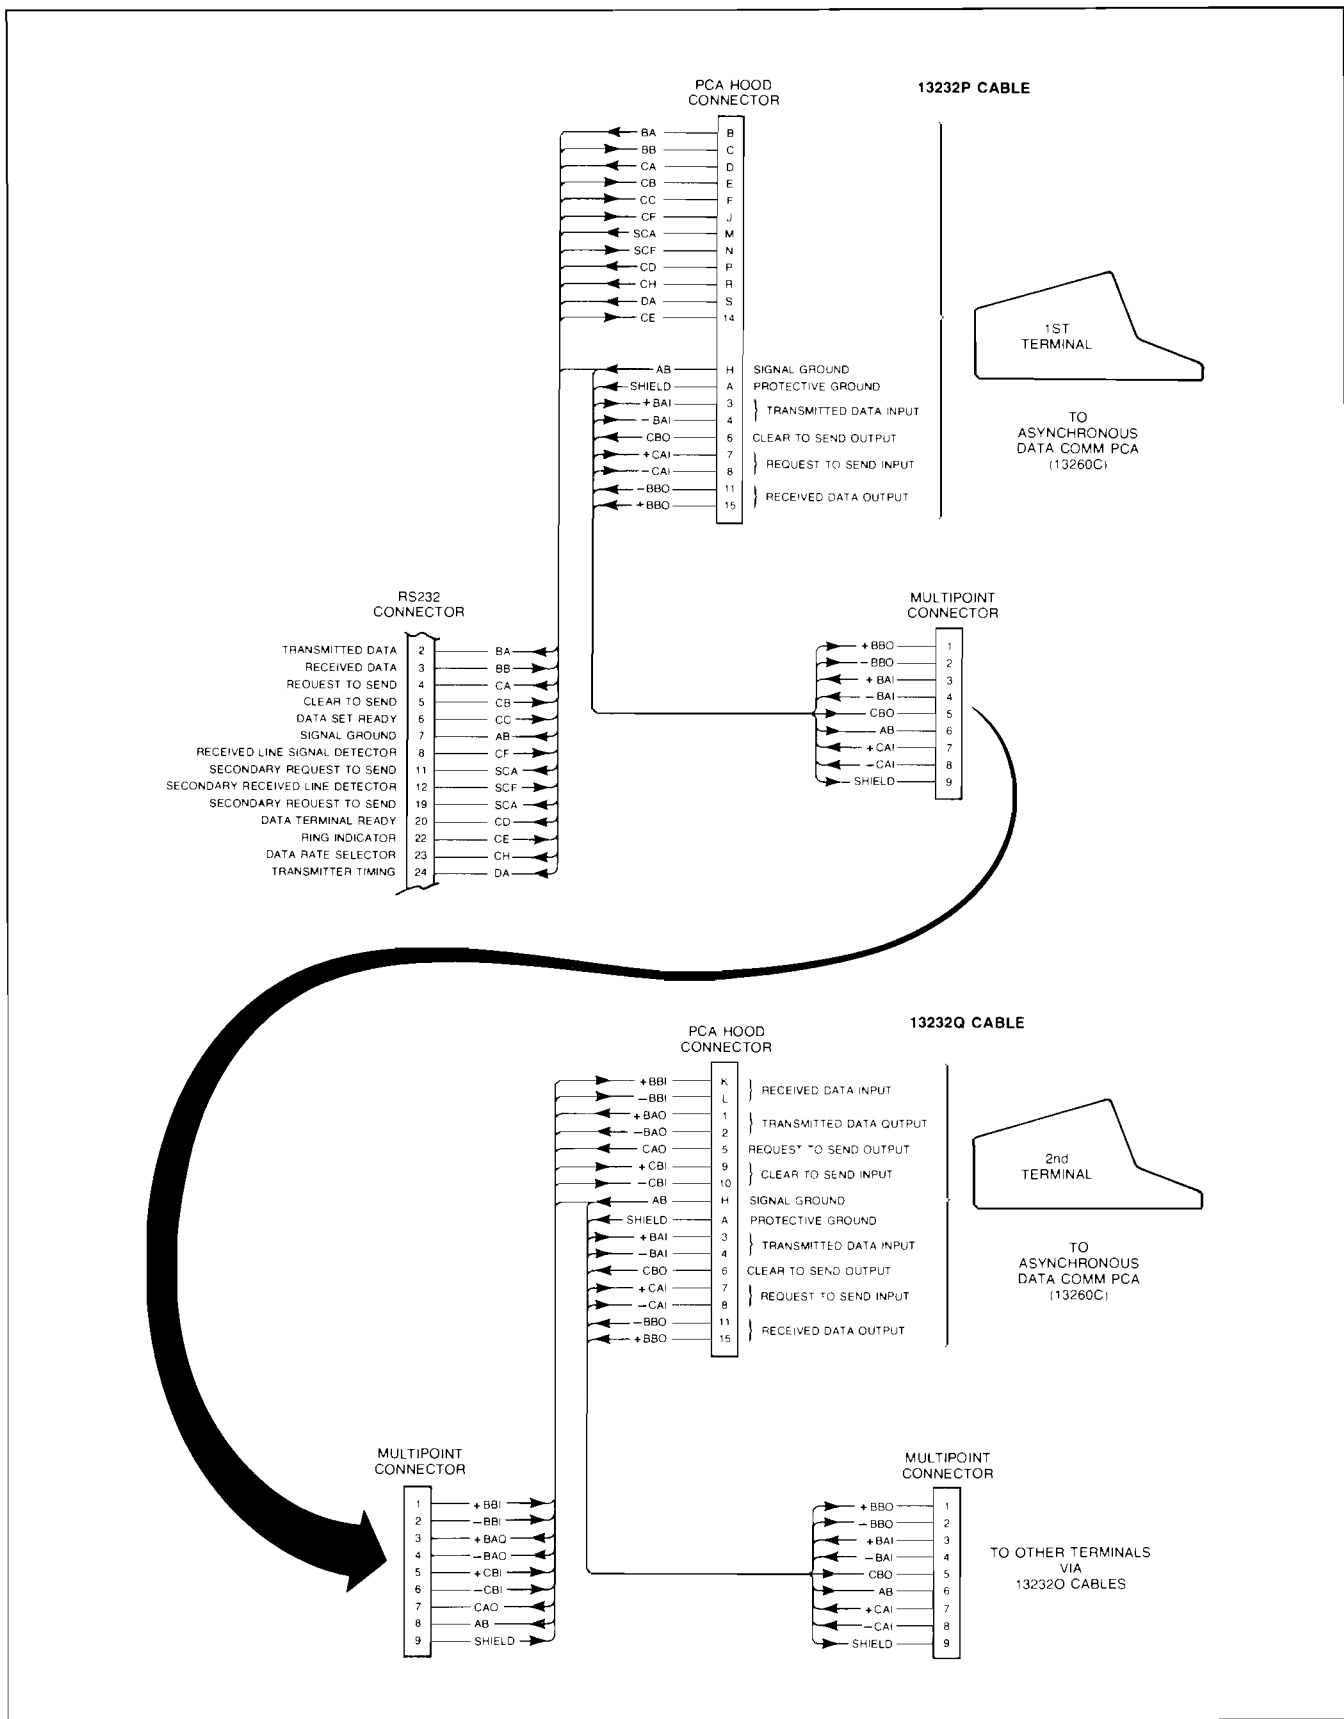

Figure 1-26. Asynchronous Multipoint Cabling
For asynchronous multipoint cabling, refer to figure 1-26 and perform the following:
3. Connect the terminal(s) as shown in figure 1-26.